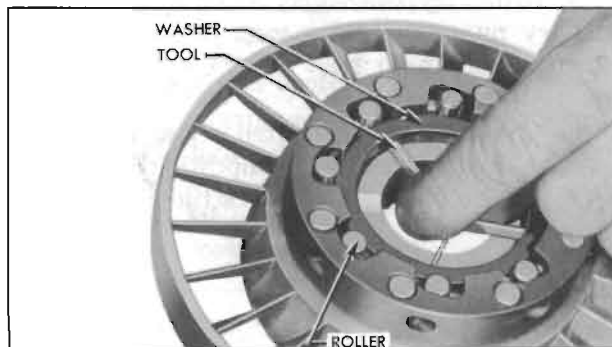

Figure 4-98—Removing Stator Assembly Tool
6. When all rollers are in place, turn tool counterclockwise until one end can be pushed into a roller recess. This will free other ends so that tool can be removed without disturbing the assembling washer. See figure 4-98.